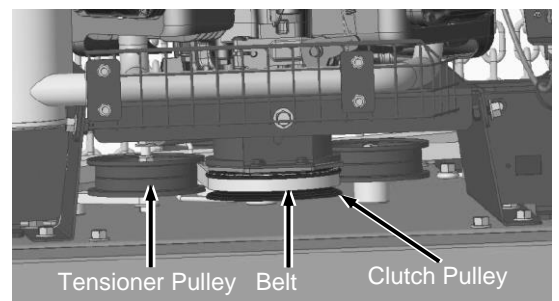

Figure 59
12. Pull Blade Belt down off Clutch Pulley (**Figure 59**).
3. With the Belt roughly routed in the correct orientation and the Tensioner spring reattached, lift the Belt into place on the Clutch Pulley at the rear of the machine (**Figure 59**).